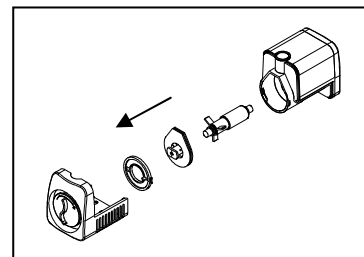

**Fig. 11**
7. Remove the pump, unscrew the wire connector that connects the UV light assembly to pump. Fig. 11